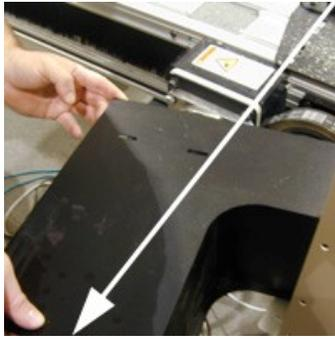

Fig. 7 — Remove the motor box cover.
1. Undo the fasteners and slide the motor box cover off (Fig. 7).